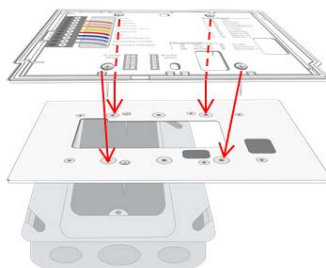

Figure 8: Backplate on Adapter Plate
Step 15 Mount pre-wired 16 gauge SS6000 backplate on top of JBOX adapter, using four #5 ½" coarse thread screws. See Figure 8.